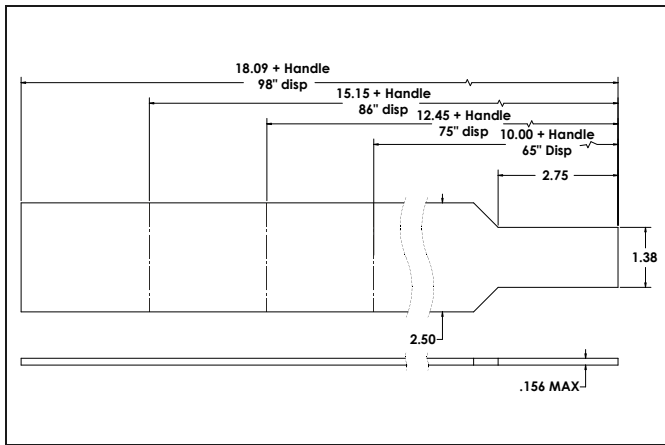

Figure 29
1. Refer to the dimensions in Figure 29 or use template and table provided on page 19 to create a cardboard shim tool. (See Figure 29)